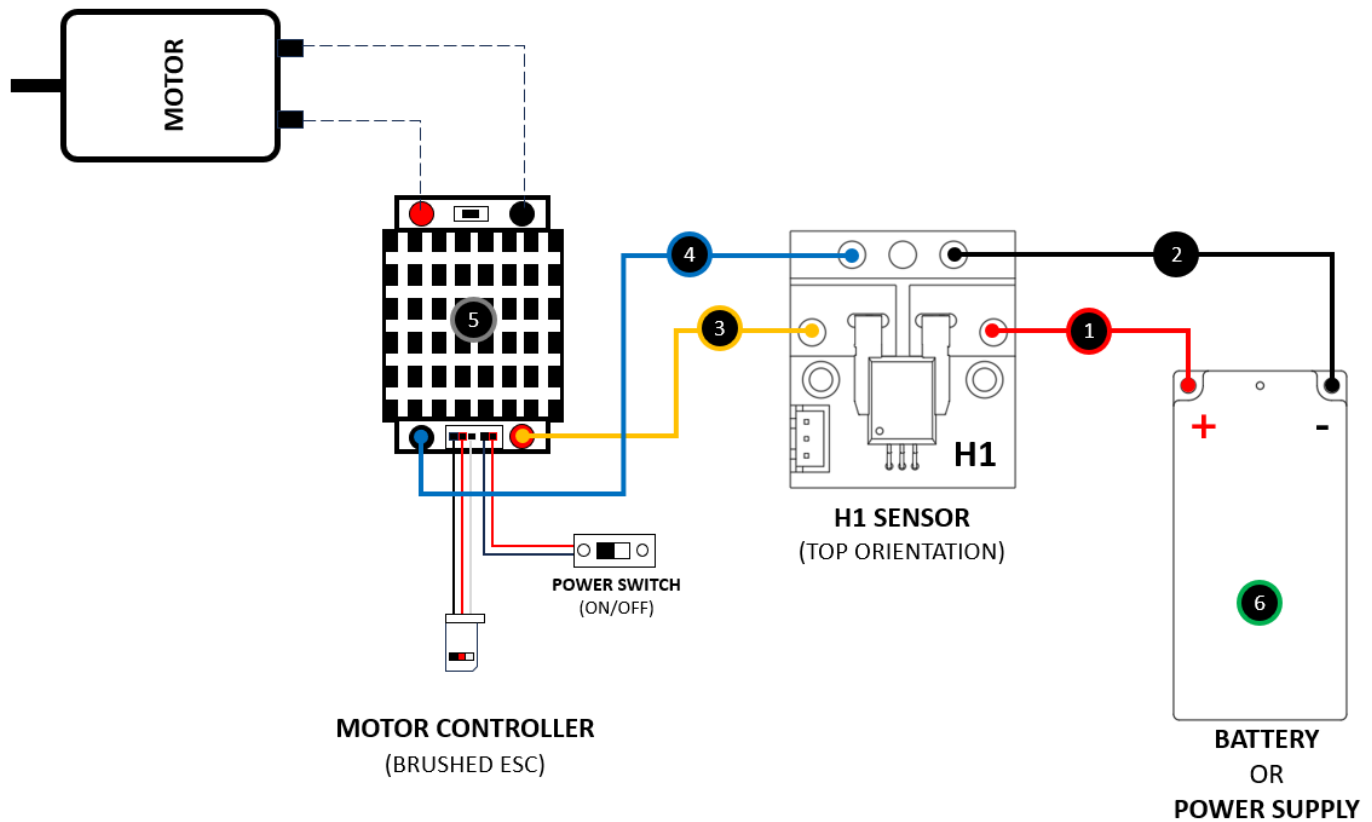

Figure 5: H1 Sensor Soldering Diagram for Brushed Motors
Warranty voided if it's not installed according to Figure 5.
1. Make sure the battery is connected to the sensor (see Figure 5 or 6) but the motor controller (ESC) is turned-off.